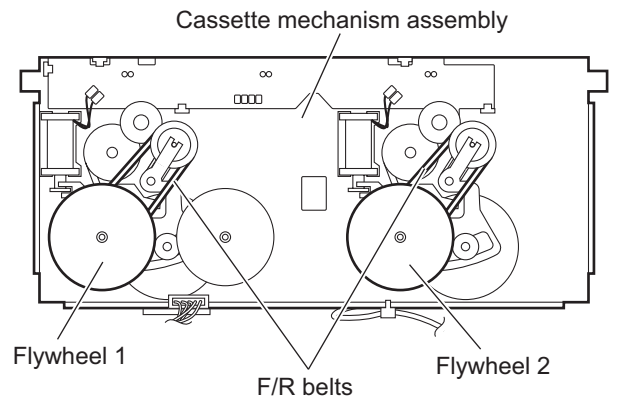

Fig.3
3.3.2 Replacing the F/R belts (See Fig.3)